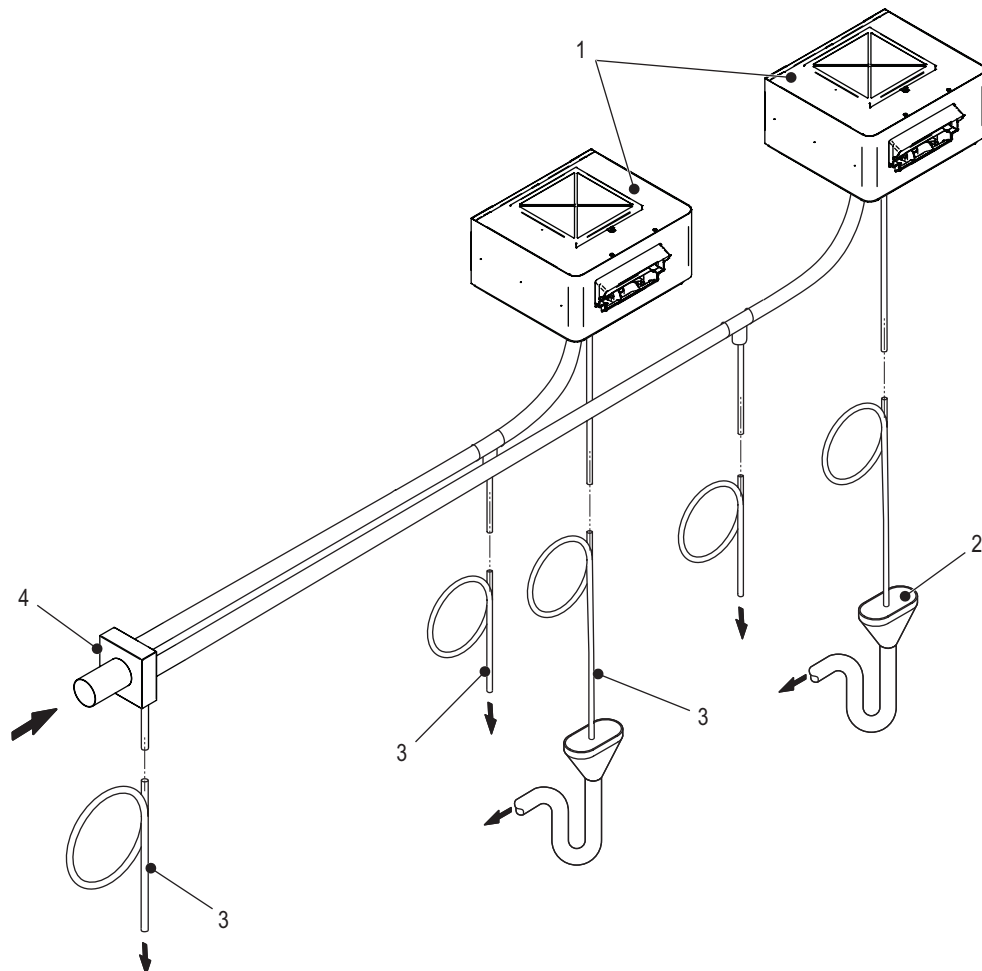

Figure 5: Typical Installation of Multiple Nortec BP with Nortec GS/SE Humidifier
In addition, multiple Nortec BPs can also be used remotely with Nortec GS 450/600 and Nortec SE 175-1050 humidifiers with the aid of breakout adaptors. Refer to Figure 5. Contact your Condair representative for additional details.
- For Nortec GS/SE humidifiers use a breakout adaptor to distribute the steam to more than one Nortec BP – refer to Figure 5 on page 17. For details of steam lines for Nortec GS/SE humidifier models contact your Condair representative.